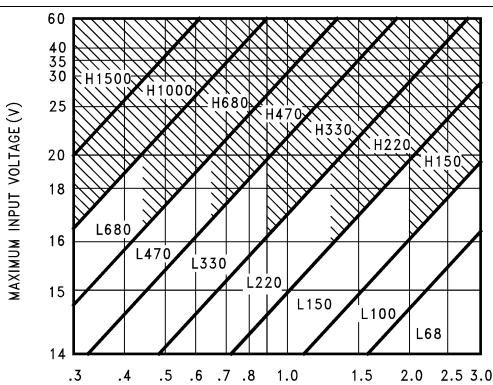
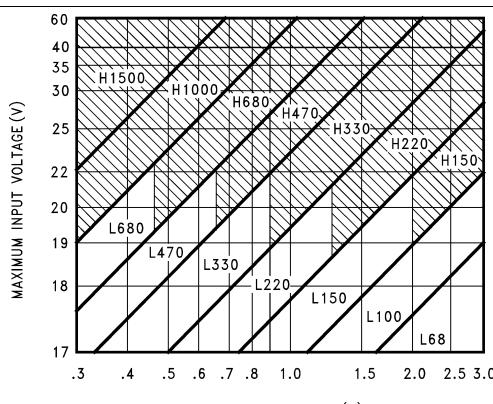

Figure 29. LM2576(HV)-12
Figure 30. LM2576(HV)-15
1. Select the correct Inductor value selection guide from Figure 27, Figure 28, Figure 29, or Figure 30. (Output voltages of 3.3 V, 5 V, 12 V or 15 V respectively). For other output voltages, see the design procedure for the